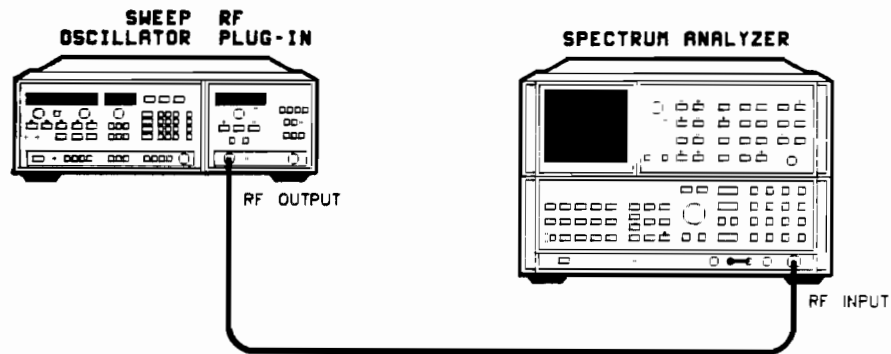

Figure 4-10. Square-Wave On/Off Ratio and Symmetry Test Setup
1. Connect the equipment as shown in Figure 4-10. Turn all instruments on and allow 1 hour warm up.